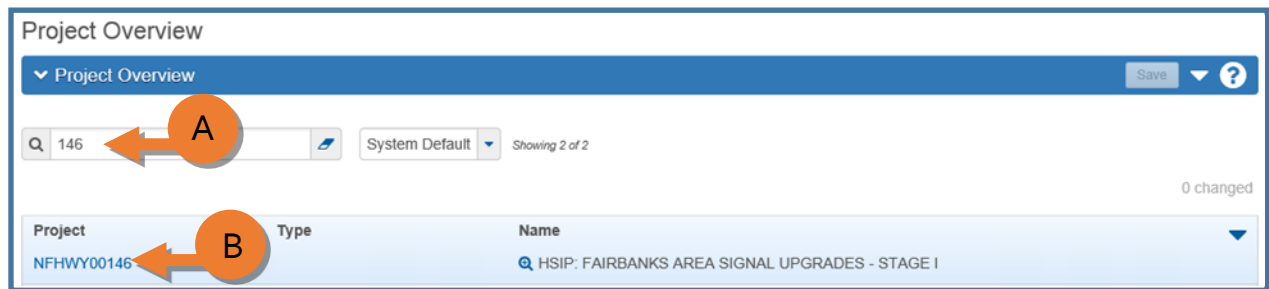

Figure 3.6
1. Log into AWP and make sure the **Proposal User** role is selected. (Figure 3.6)
2. (A) In the Project Overview component, search for your project. NOTE: A minimum of a three (3) character string is required for the system to search. You can search by Project ID (State/IRIS number) or the Project Name.
3. (B) Click the **Project ID** link to open the project.